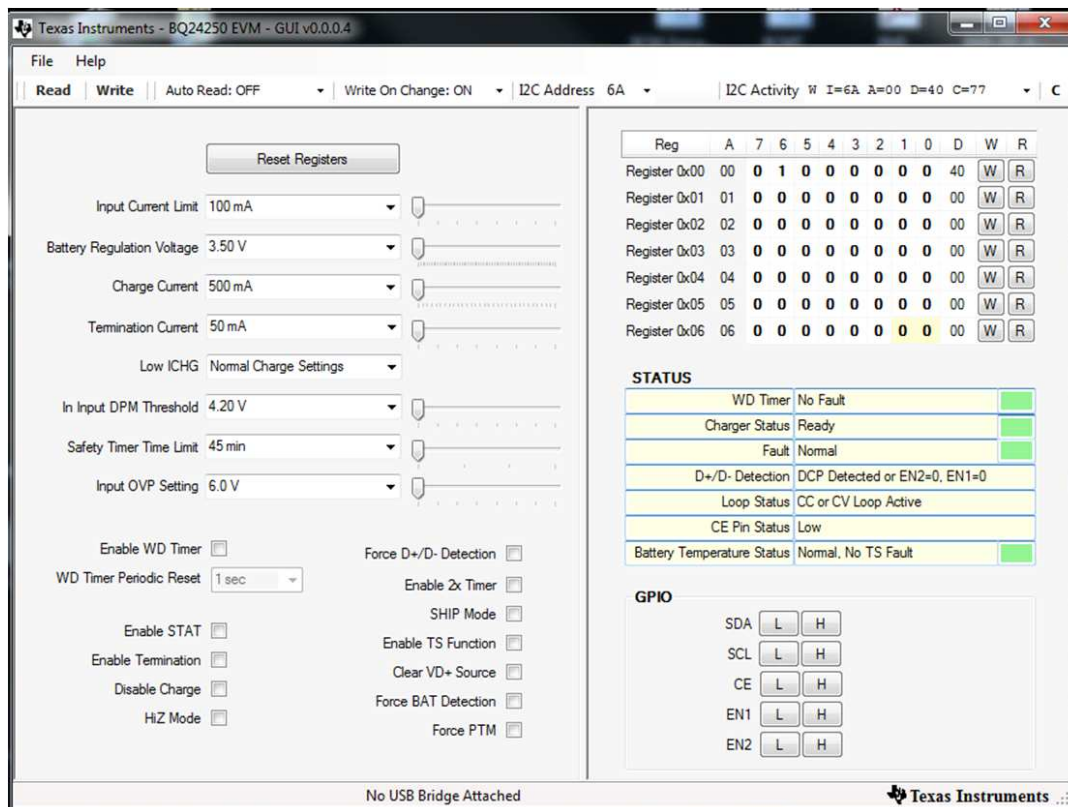

Figure 5. Main Window of the bq2425xSW Evaluation Software
10. Turn on the computer. Open the bq2425x evaluation software. The main window of the software is shown in Figure 5.